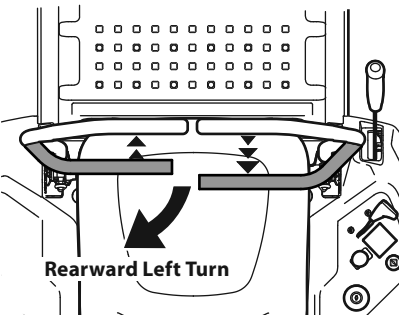

Figure 23
1. To turn to the left while traveling in reverse, move the left drive control lever forward of the right drive control lever. See Figure 23.